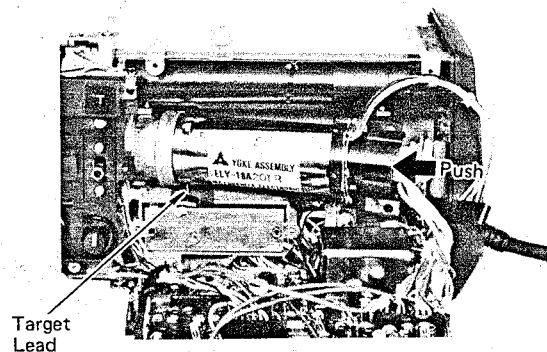

Fig. 3-12
- Install the deflection coil into the chassis while holding the deflection coil holder. Note that the target lead has to be positioned downward. (Fig. 3-12)